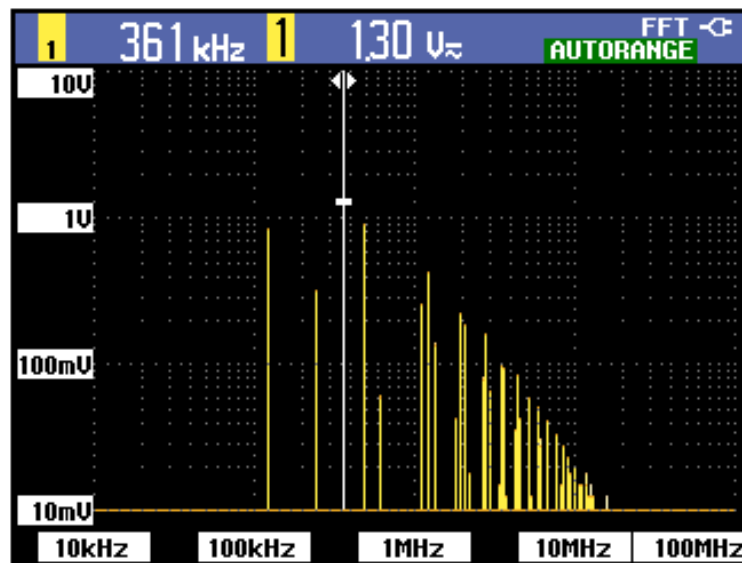

Figure 23: FFT measurement
5. Check that **FFT** shows at the top right of the display screen that appears. (See Figure 23.)